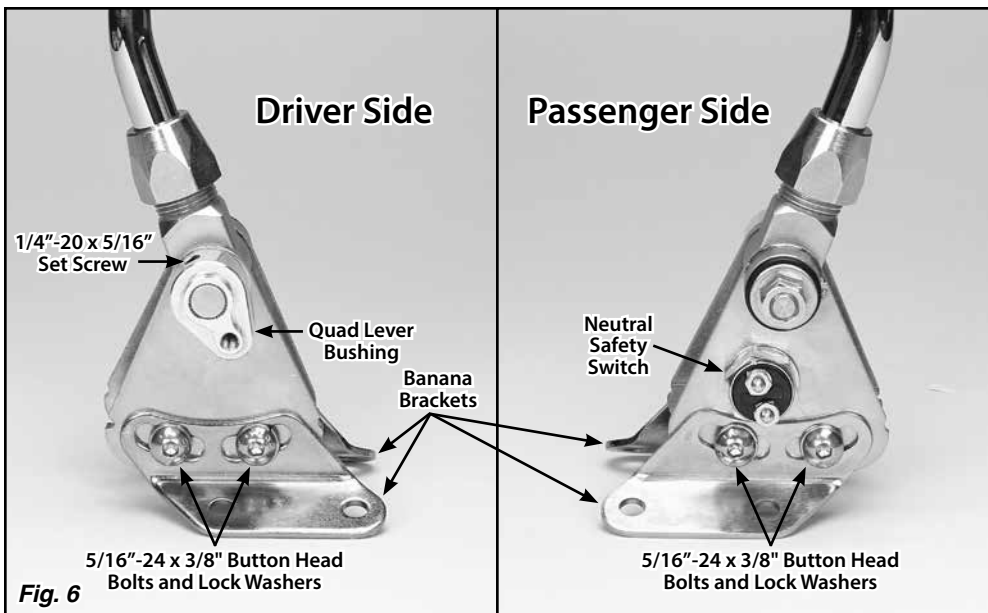

Fig. 6
**Step 8:** Install the banana brackets onto the shifter assembly using the 5/16"-24 x 3/8" button head bolts with lock washers. The curved, slotted holes in the banana brackets go against the shifter, and the bottom of both banana brackets should be pointing towards the rear. **Fig. 6**